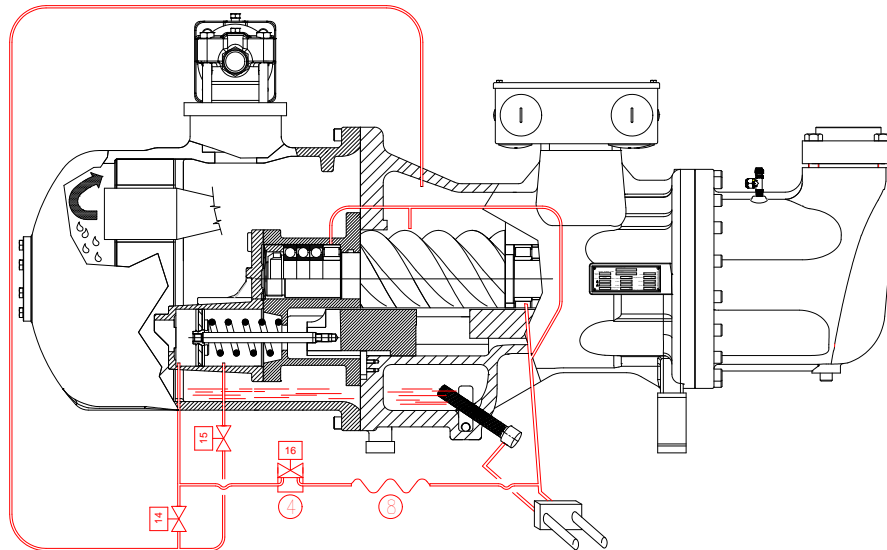

Fig. 20: infinite capacity control oil circuit (step less configuration)
The oil channels must be throttled to achieve slower motion and more accurate positioning of the control piston. With reference to the Fig. 20, the load channel (20) can be throttled by installing a modified capillary tube or a reduced orifice (13). The unload channel (14) or (15) can be throttled by installing an orifice (21) upstream the solenoid valve.
In the infinite configuration, on the other hand, this pipe is closed by the solenoid valve (16), see Fig. 20, which is normally closed. Consequently, unless the solenoid valve (14) is energized before stopping, the oil cannot flow out of the cylinder and as a result the compressor is not discharged.